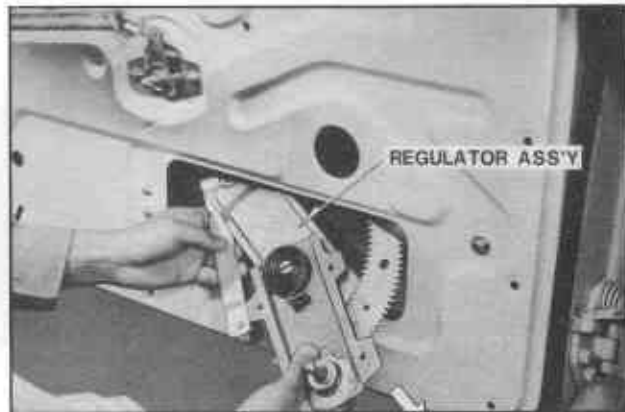

Fig. BF-14 Removing the regulator
5. Raise the window glass and slide the regulator main arm roller off the glass bottom channel. Remove the regulator as shown in Figure BF-14.